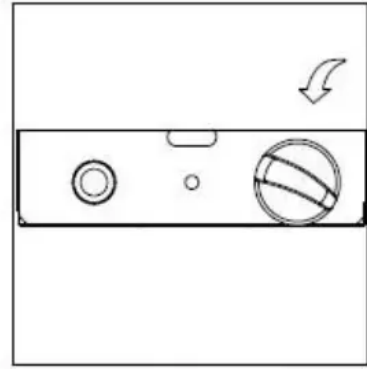

Figure 5
8. Push in and turn the control knob to the “HIGH”, then release control knob. If you want a lower temperature, push in the control knob and turn counterclockwise to the “LOW” position. (Figure 5)